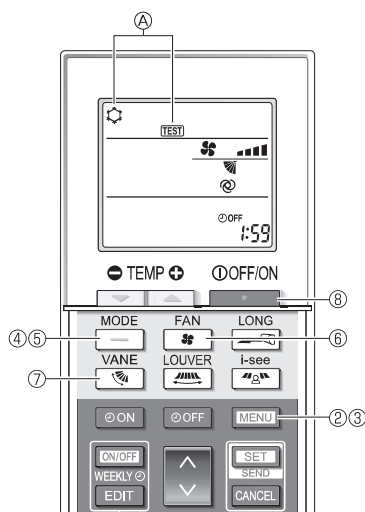

Fig. 8-5
- ① Turn on the power to the unit at least 12 hours before the test run.
- ② Press the **MENU** button for 5 seconds. (Fig. 8-5)
- ③ Press the **MENU** button.
④ **TEST** and the current operation mode are displayed. (Fig. 8-5)
- ④ Press the **—** button to activate cool mode, then check whether cool air is blown out from the unit.
- ⑤ Press the **—** button to activate heat mode, then check whether warm air is blown out from the unit.
- ⑥ Press the **—** button and check whether the fan speed changes.
- ⑦ Press the **—** button and check whether the auto vane operates properly.
- ⑧ Press the **—** button to stop the test run.